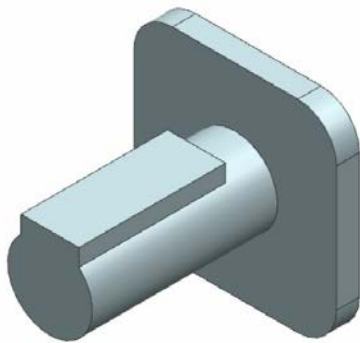

Figure 6-99 The resulting model after creating the third feature
- c. Draw the sketches of the third and fourth features and extrude them, refer to Figures 6-99 and 6-100.
7. Choose the **OK** button from the dialog box; the extruded feature is created. The resulting model after creating the third feature is shown in Figure 6-99.